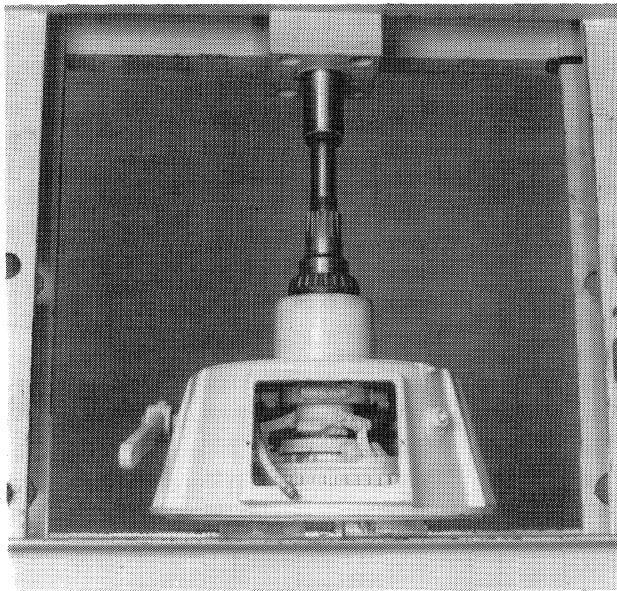

FIGURE 2-10
4. Set the clutch assembly on a support in the press. Position the housing on the press (see Figure 2-10). It should be supported by the clutch assembly only. Install the shaft and press it into the assembly until the split rings can be installed. Install the split rings and press the shaft until it is seated.